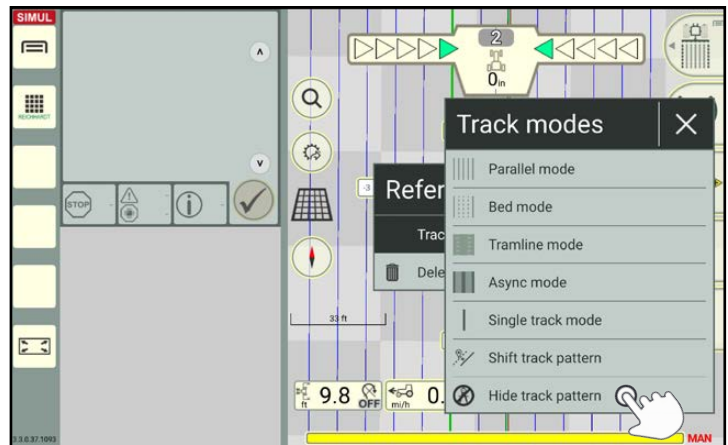

Fig. 170: Tapping "Hide track pattern"
3. Tap "Hide track pattern" (see Fig. 170).